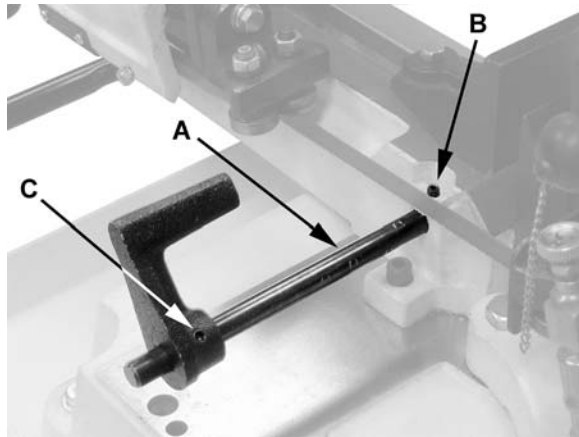

Figure 5
1. Insert the stock stop rod (A, Figure 5) into the hole at the front of the base as shown.
2. Secure the rod by tightening the socket set screw (B, Figure 5) with a 3mm hex wrench.
3. The stock stop is moved along the rod by loosening the socket set screw (C, Figure 5) with a 4mm hex wrench. The stock stop can be reversed on the rod to accept slightly longer lengths of workpieces. Tighten the socket set screw (C, Figure 5) when the stock stop is positioned as desired.